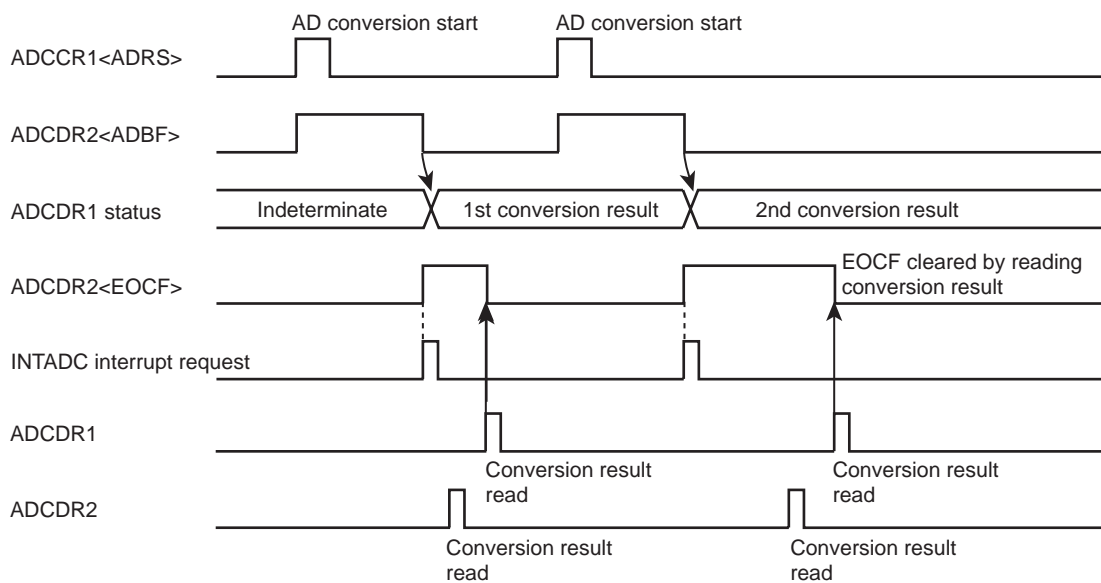

Figure 17-2 Software Start Mode
- Set the AD conversion time using AD conversion time (ACK). For details on how to set the conversion time, refer to Figure 17-1, Figure 17-2 and AD converter control register 2.
3. After setting up (1) and (2) above, set AD conversion start (ADRS) of AD converter control register 1 (ADCCR1) to "1". If software start mode has been selected, AD conversion starts immediately.